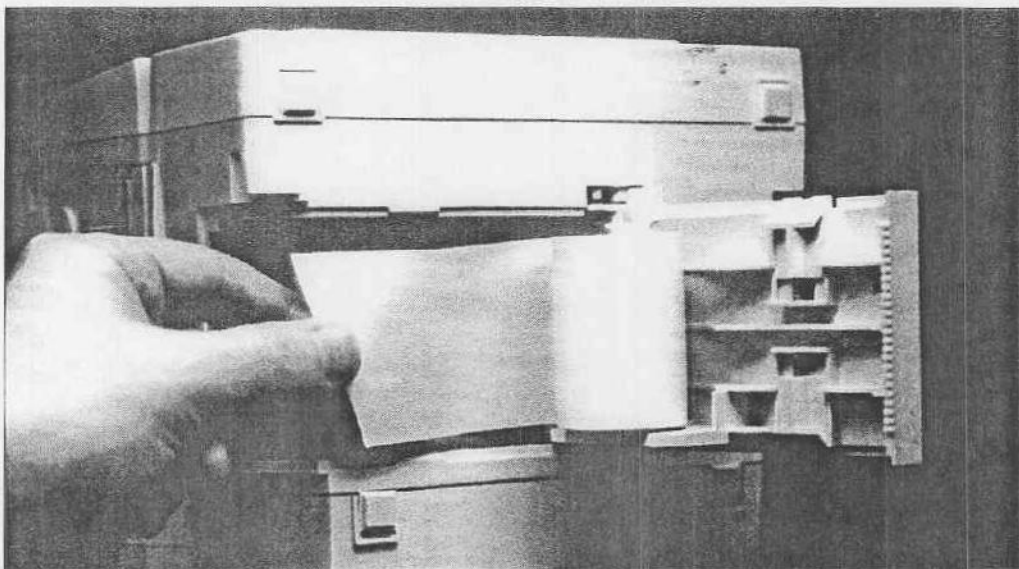

Figure 5-2. Loading printer paper
- 10 Place the new paper roll onto the holder and pull out several inches of paper as shown in Figure 5-2 on page 5-13.